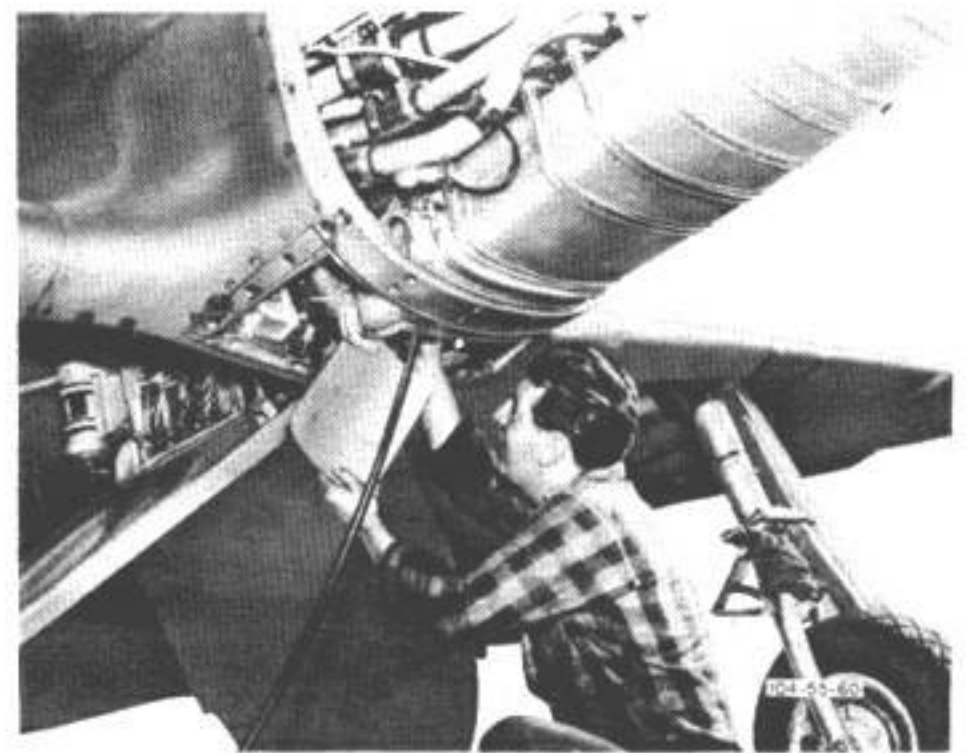

Figure 6—Induction of Corrosion Preventive During Engine Run-up
2. Repeat steps 1. through 35., paragraph 1. c. (1) (a) in this section.
4. Insert the atomizer nozzle of the mixture-induction apparatus through the carburetor air scoop (figure 6) and the carburetor until atomizer contacts the throttle butterfly valve. At 1500 rpm, start spraying corrosion-preventive mixture into the supercharger. Cut engine immediately as outlined in steps 37. through 40., paragraph 1. c. (1) (a) in this section.